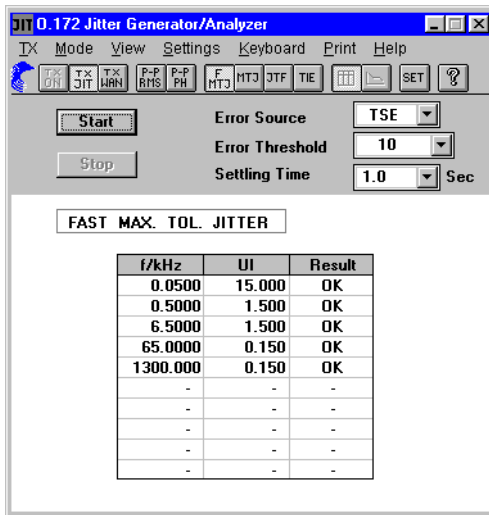

Fig. A-8 Fast MTJ measurements window
- The table (see Fig. A-8) contains combinations of jitter frequencies and jitter amplitudes or default values specified by the user. Starting with the smallest frequency, they are set when the measurement is started.